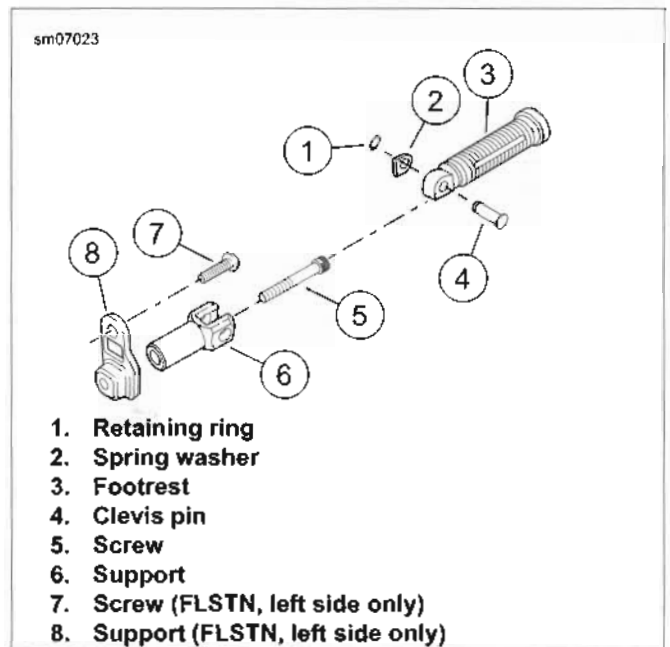

Figure 2-127. Passenger Footrests
See Figure 2-127. Remove retaining ring (1) and clevis pin (4). Pull footrest (3) and spring washer (2) from support (6).
1. **FLSTN:** see Figure 2-127. If support (8) was removed, install support and tighten screw (7) to 25-30 ft-lbs (33.9-40.7 Nm).
2. See Figure 2-127. If support (6) was removed, install with screw (5). Tighten to 25-30 ft-lbs (33.9-40.7 Nm).
3. Place footrest (3) and spring washer (2) into position on support (6).
4. Install clevis pin (4) and **new** retaining ring (1).